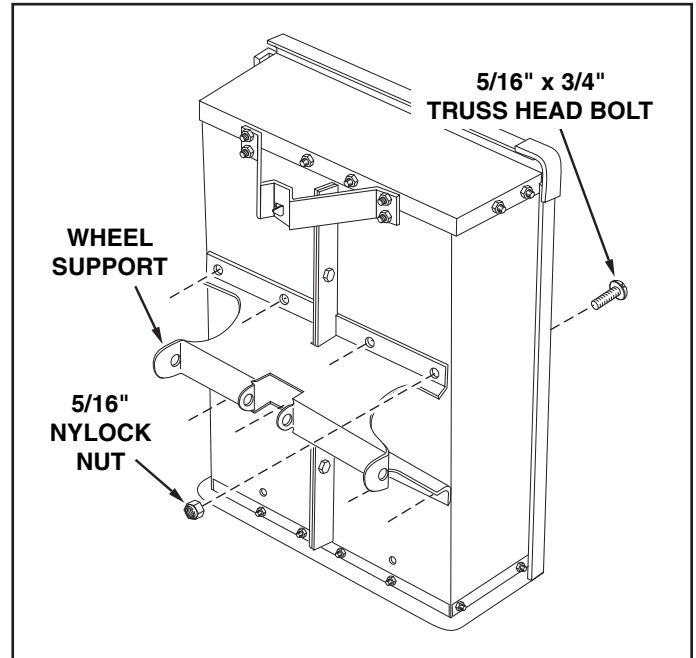

FIGURE 6
14. Assemble the wheel support to the cart using eight 5/16" x 3/4" truss head bolts and 5/16" nylock nuts as shown in figure 6. Heads of bolts go on the inside of the cart. **Tighten**.